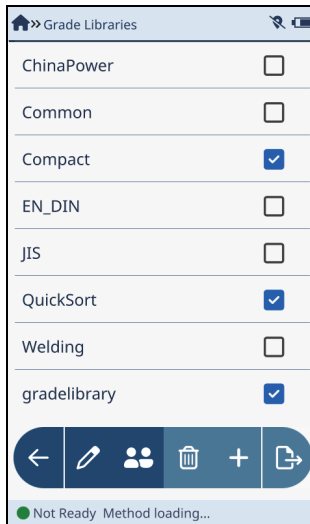

Figure 2-68 Grade Libraries screen
1. Tap the arrow () to display the **Grade Libraries** screen (see Figure 2-68 on page 82).